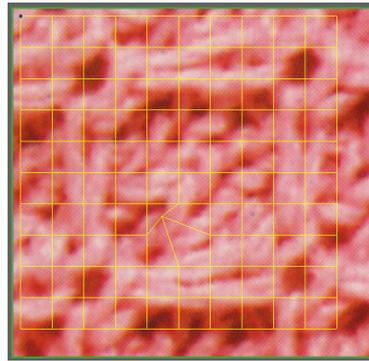

Figure 6-23C Confirm the new position
- iii. Single click again the mouse over the new position (Figure 6-23C).